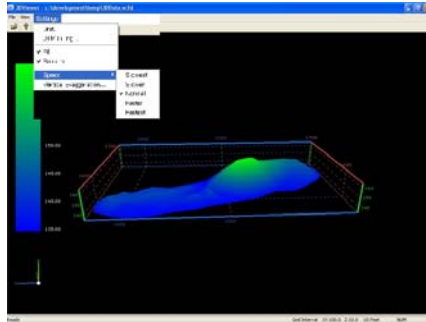

Figure 7-15. 3D Viewer – Settings Menu
- **OK** – press to save. The *3D Viewer* dialog box appears (Figure 7-15).
The Settings menu on the *3D Viewer* screen (Figure 7-15) has the following options:
3. Press **OK** to save and return to the *3D Viewer* screen (Figure 7-15 on page 7-17).